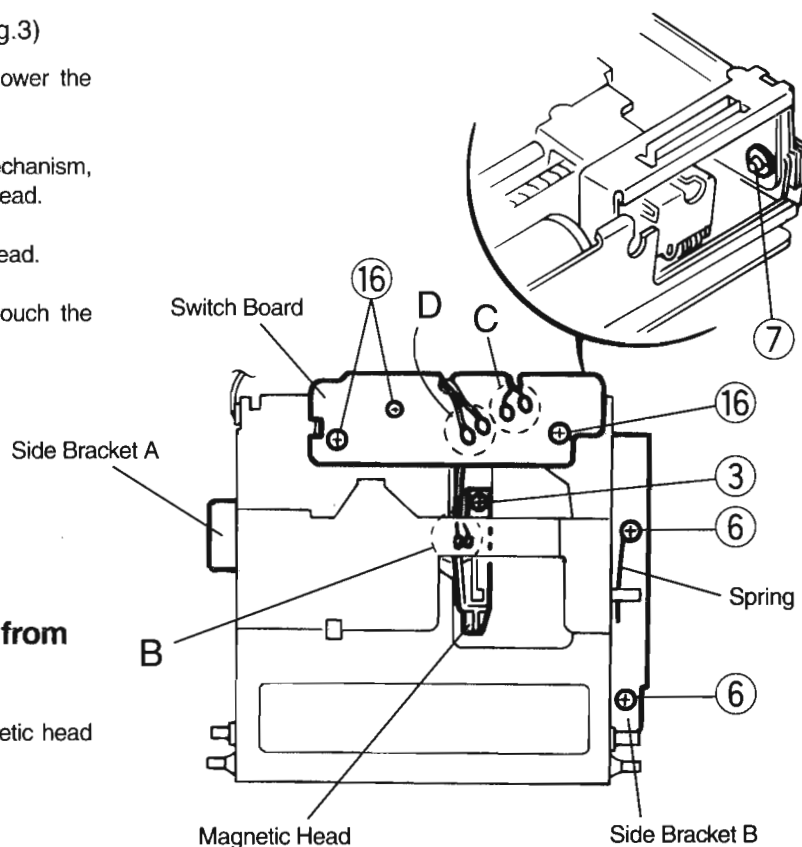

Fig.3
3) Removing the Magnetic Head(see Fig.3)
(see Fig.3,10-12)
1. Unsolder the two wires D outgoing from the loading motor. Similarly, unsolder the two wires C outgoing from the magnetic head (see Fig.3).
2. Remove the three screws ⑩ attaching the switch board (see Fig.3).
3. Remove the three screws ⑪ attaching the loading motor assembly.
4. Remove the two screws ⑫ attaching the loading motor.
1. Detach the traverse mechanism assembly from the loading mechanism assembly following the procedure mentioned in 4) (see Fig.3~6).